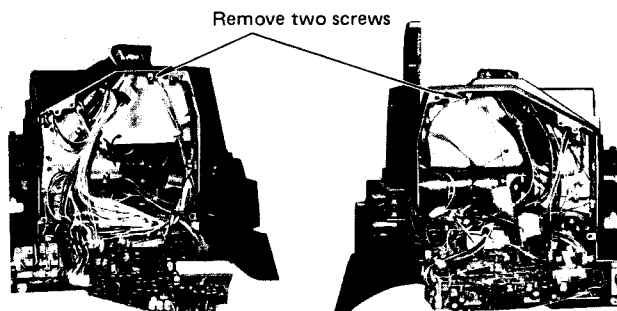

Fig. 3-1-4
- o Remove two screws which hold the Auto (A) and (B) board. (Fig. 3-1-4)